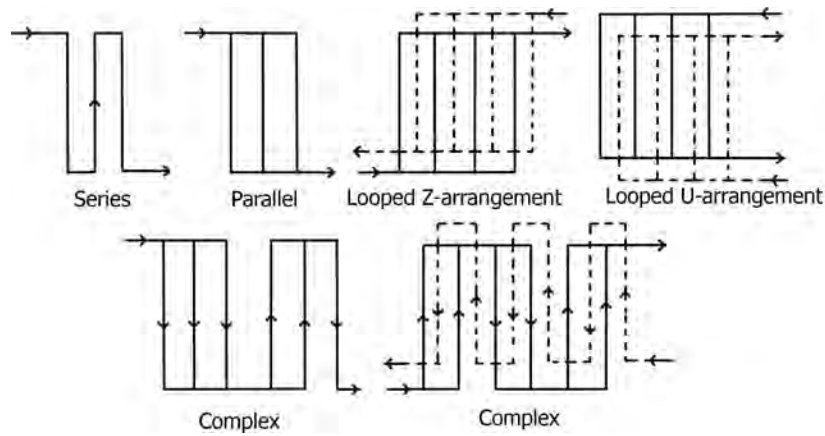

FIGURE 13.15 Flow patterns.
- Figure 13.15 illustrates series and parallel flows, looped patterns in U and Z arrangements and complex patterns.